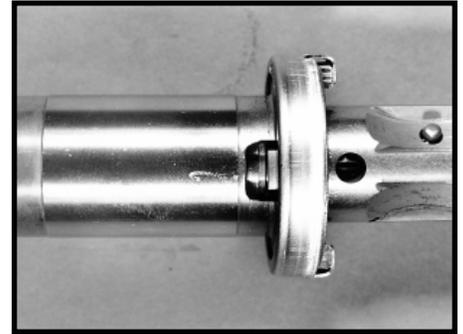

Figure 62
**WARNING: DO NOT DISASSEMBLE THE WORM SHAFT/INPUT SHAFT ASSEMBLY (16), WHICH INCLUDES THE WORM SHAFT, INPUT SHAFT, TORSION BAR, TORSION BAR PINS, DRIVE RING AND DRIVE RING RETAINER, AND INSERT. DO NOT UNBEND THE DRIVE RING RETAINER TANGS THAT HOLD THE DRIVE RING IN PLACE. SEE FIGURE 62. DOING EITHER WILL ALTER THE VALVE TIMING, WHICH COULD CAUSE THE VEHICLE TO PULL TO ONE SIDE OR THE OTHER.**